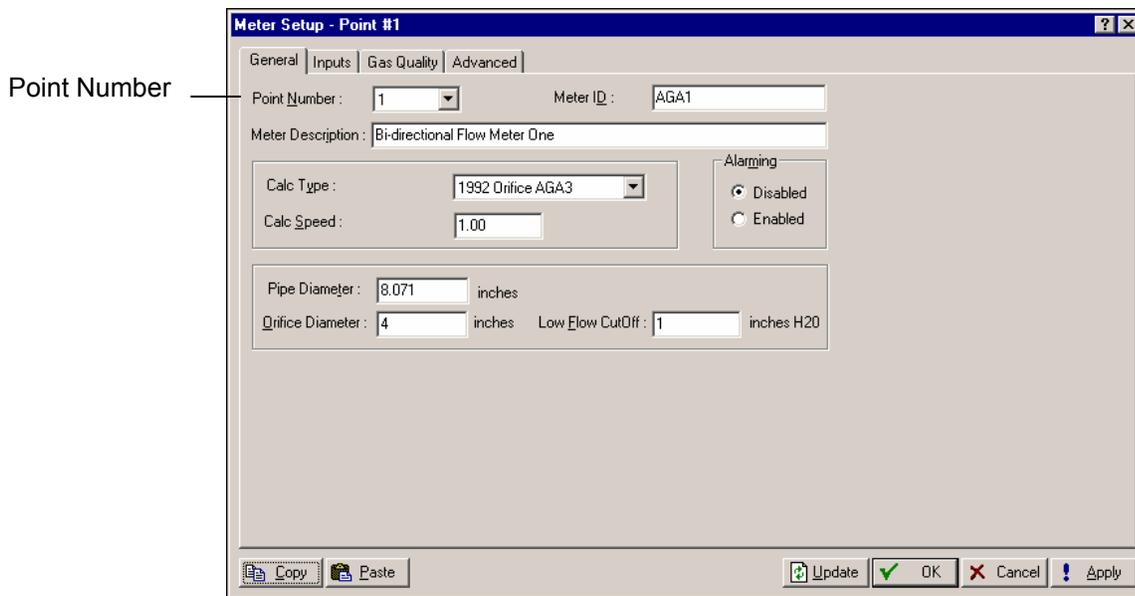

Figure 6-11. Meter Setup – General
3. Select a meter run (to be configured for archiving reverse flow) from the **Point Number** drop-down list box. Refer to Figure 6-11.
10. Select a meter run (to be configured for archiving forward flow) from the **Point Number** drop-down list box. Refer to Figure 6-11.